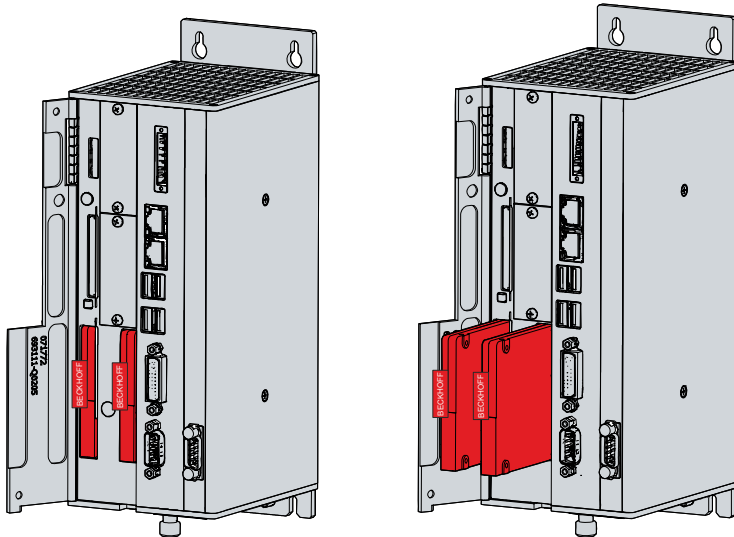

Fig. 27: C6930_exchange SSD
1. Remove the SSD from the PC by pulling forcefully on the protruding Beckhoff sticker (see fig. 27).